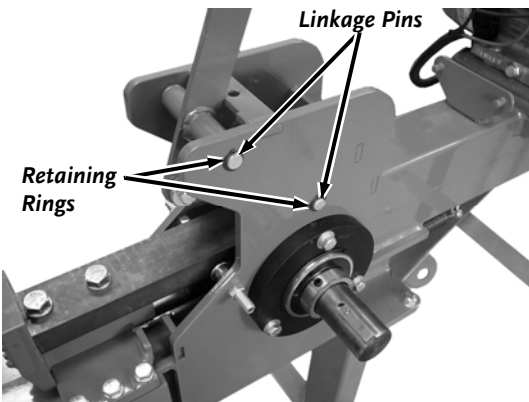

Figure 29
4. Use Retaining-ring Pliers to remove the Rings from one side of both Linkage Pins (**Figure 29**).